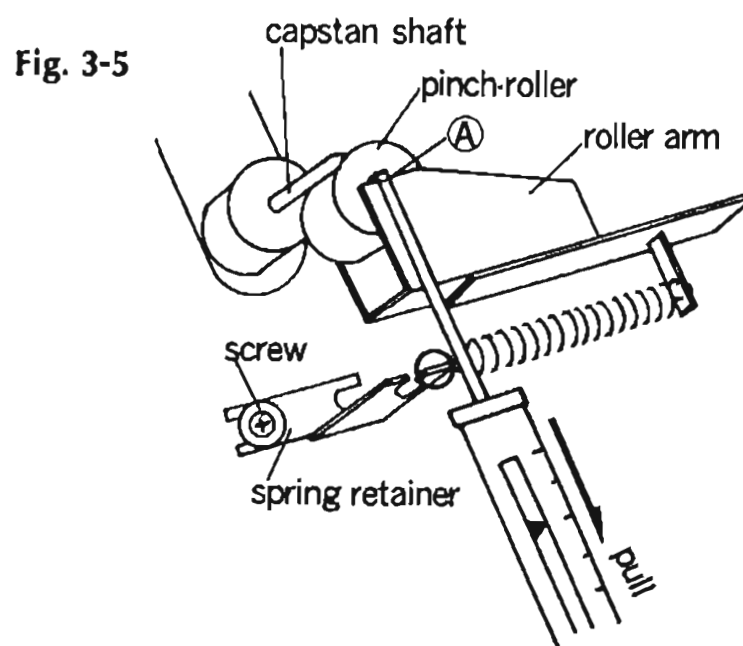

Fig. 3-5
3-8. Pinch-roller Pressure Adjustment (See Fig. 3-5)
- 1) Hook the spring scale at point (A) of the roller arm as shown in Fig. 3-5.